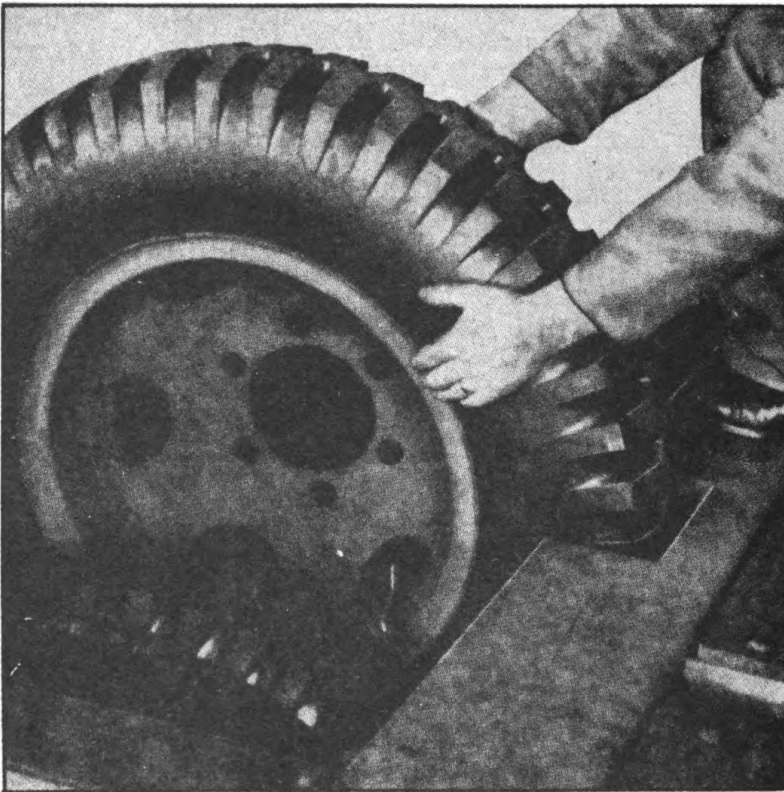

FIGURE 73. REMOVAL REAR INNER TIRE ASSEMBLY
4. INNER WHEEL ASSEMBLY, REAR AXLE (Figure 73).—a. Removal.—(1) When removing inner wheel assembly, it is necessary to remove the two tire assemblies prior to removal of hub assembly.